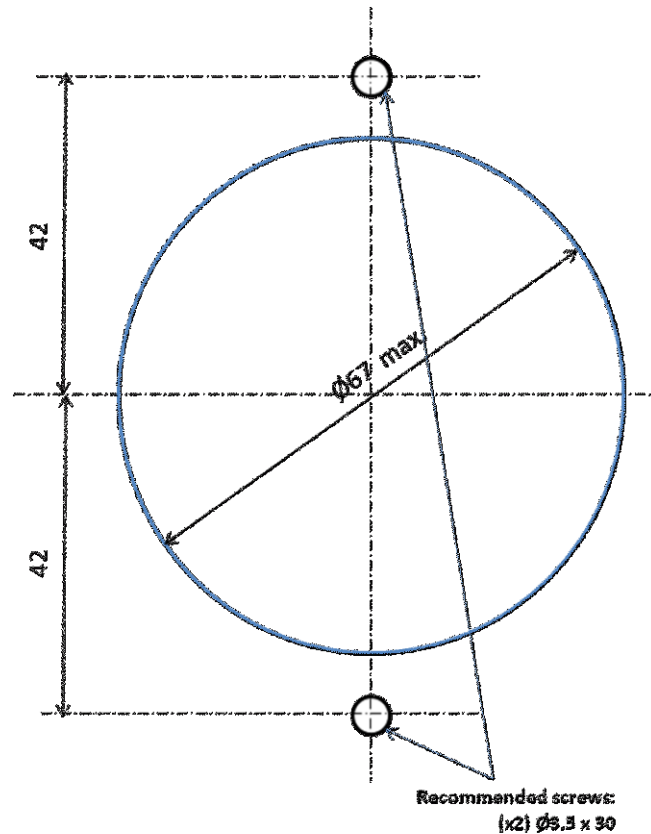
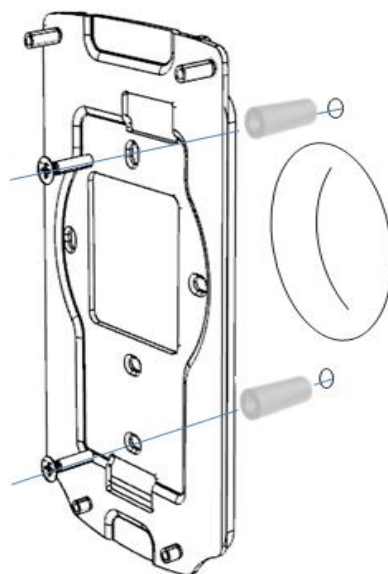

Figure 7: Drilling template
Figure 8: Wall plate fixing
1. If not present, drill in the wall a hole with a diameter of 67mm (see Figure 7).
3. Drill in the wall 2 holes with a diameter adapted to screws and fit them with the rawplugs (see Figure 7 and Figure 8).
4. Place the wall plate against the wall, opposite the two holes pierced in the wall (see Figure 8).
5. Fix the wall plate using the two screws that fit the rawplugs (Max diameter: 3.5 mm, length 30 mm) (see Figure 8). Use the 2 upper screw shanks to make sure that the wall plate is mounted horizontally.